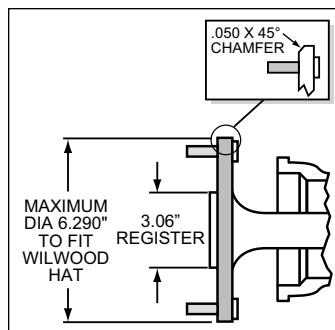

Figure 2. Axle Flange Maximum Dimension
- Axle center register diameter is 3.06", Figure 2.
- Maximum axle flange diameter must be no larger than 6.29" with a .050" x 45° chamfer (see Figure 2).